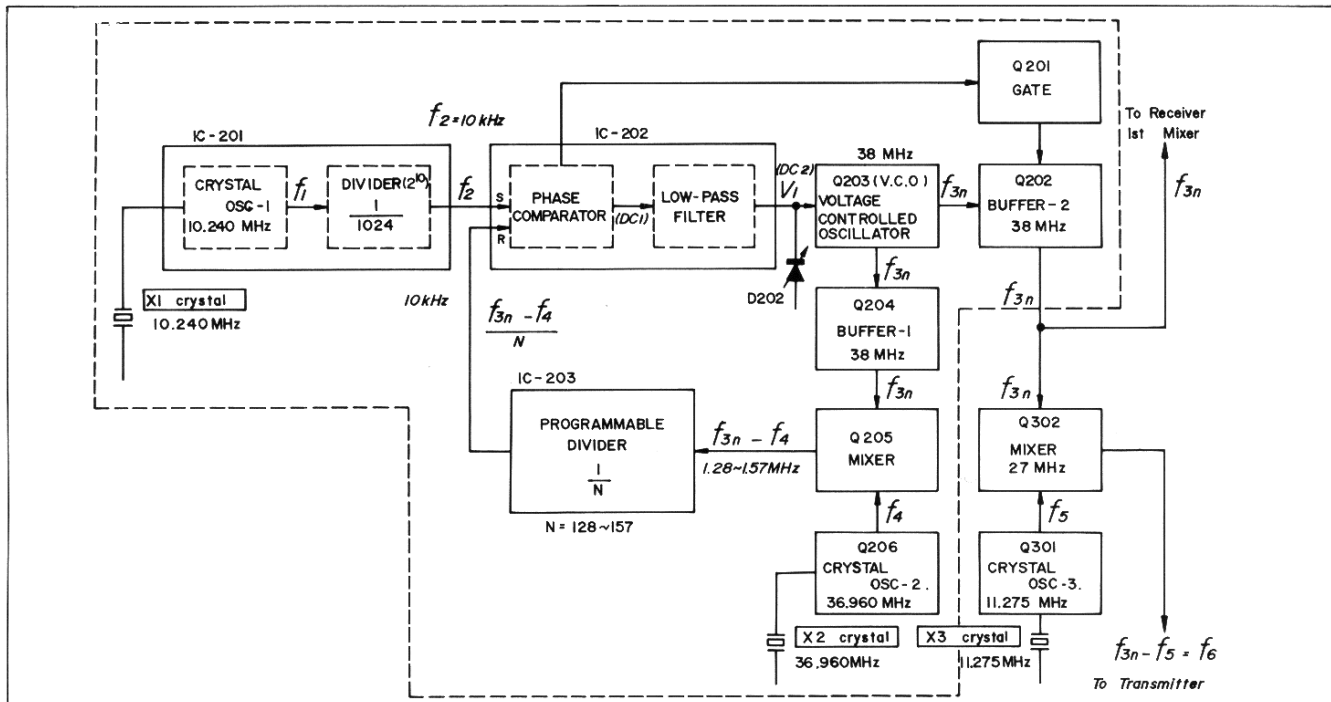

Figure 2 P.L.L. CIRCUIT FREQUENCY SYNTHESIZER
A DESCRIPTION OF PHASE-LOCKED-LOOP (P.L.L.) CIRCUIT (Figure 2)
IC-202, the voltage controlled oscillator (or V.C.O.) Q203, the buffer amplifier Q204, the mixer A205 and the programmable divider IC-203 as shown in Figure 2.
3) **Frequency Determining** (Refer to Figure 2)